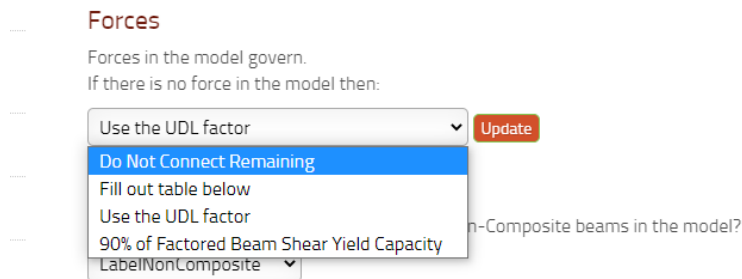

FIGURE 9. OPTIONS FOR CONNECTION FORCES IF NOT PROVIDED IN MODEL
The *Minimum Job Requirements* page is used to establish design requirements and preferences. The user specifies LRFD or ASD, design loads, whether or not to design moment or vertical brace connections, material specifications, any integrity checks, and connection preferences such as minimum or maximum plate thickness. If the design forces (e.g., beam end reactions) have not been provided in the model for some connections, the user can instruct Qnect to (1) not design connections at those locations, (2) follow a user-completed table of vertical shear forces for different beam sizes and spans, (3) use a percentage of the uniform design load (UDL), or (4) use 90% of the factored beam shear yield capacity (Figure 9). All connection design forces have been provided in the Downers Grove model, and this example focuses on just one connection, so the “Do Not Connect” option is selected and the “Update” button clicked. [To check the member end reactions in Tekla, click to select the member, right-click and select “User-Defined Attributes”, and then select “End Conditions” in the pop-up window.] There are a number of other minimum job requirements that must be selected. Default values are used for the remaining parameters and questions (see Figure 10 for an example). Users are encouraged to evaluate the influence of these various decisions on the connection design.